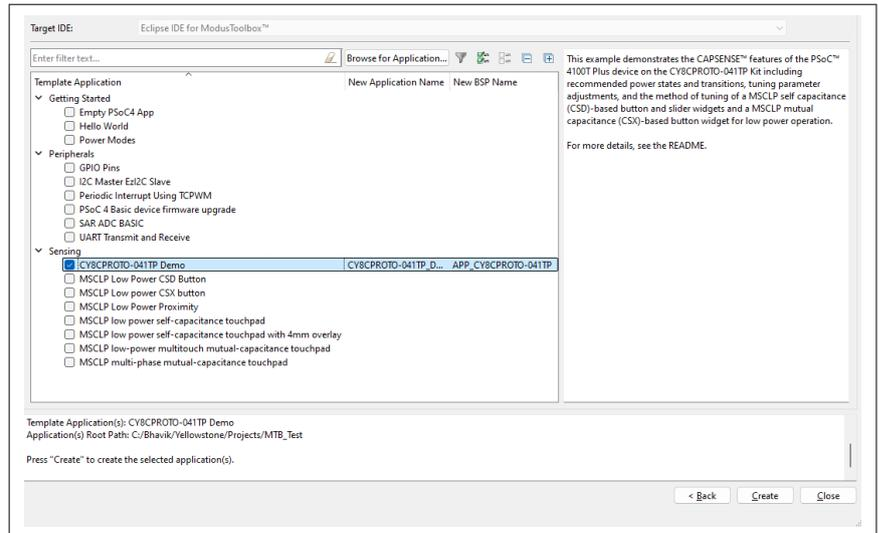

Figure 15 Creating a new application: Select Application
Note: More code examples are available in the Eclipse IDE for the ModusToolbox™ software (see Figure 15) or on the GitHub page dedicated to ModusToolbox™ software-based examples. These examples can be used to evaluate the board. Some of these examples include:
3. Select the required application and click **Create**, as shown in Figure 15. The right pane will display the code example description and provide a link to view the README file on GitHub